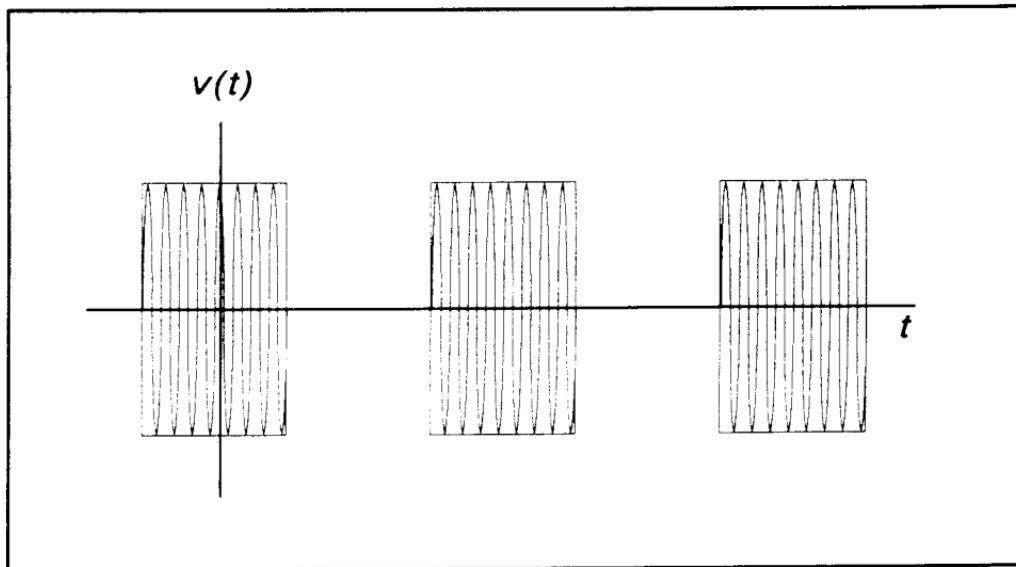

Figure 5-1. Pulsed RF Signal
Pulse Power. Pulse power refers to power measured during the on time of pulsed RF signals (Figure 5-1). Traditionally, these signals have been measured in two steps: (1) thermoelectric sensors measure the average signal power, (2) the reading is then divided by the duty cycle to obtain pulse power, P_{pulse} :